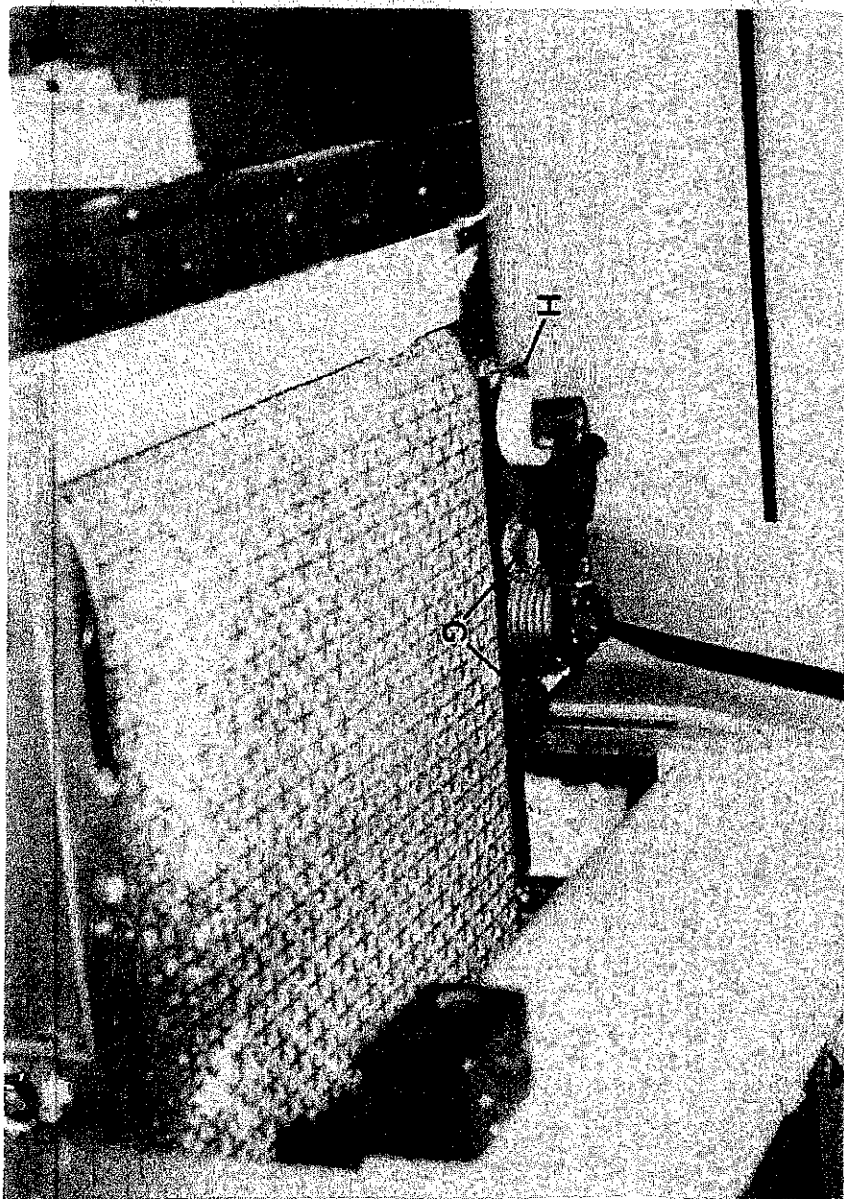

Fig 37
- 12) Remove 2 - M10 hexagon bolts "G" and remove outfeed side pressure "H" FIG.37.